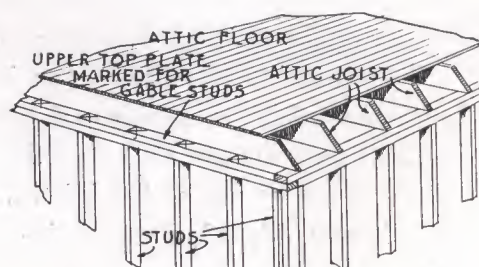

FIGURE 42
- (d) If there is no rafter plate and the rafters rest on the upper top plate of the second story, the attic floor runs only out to the under side of the rafters. In the case of a gable-roofed house, the flooring runs to the inside of the gable studs (see Figure 42).